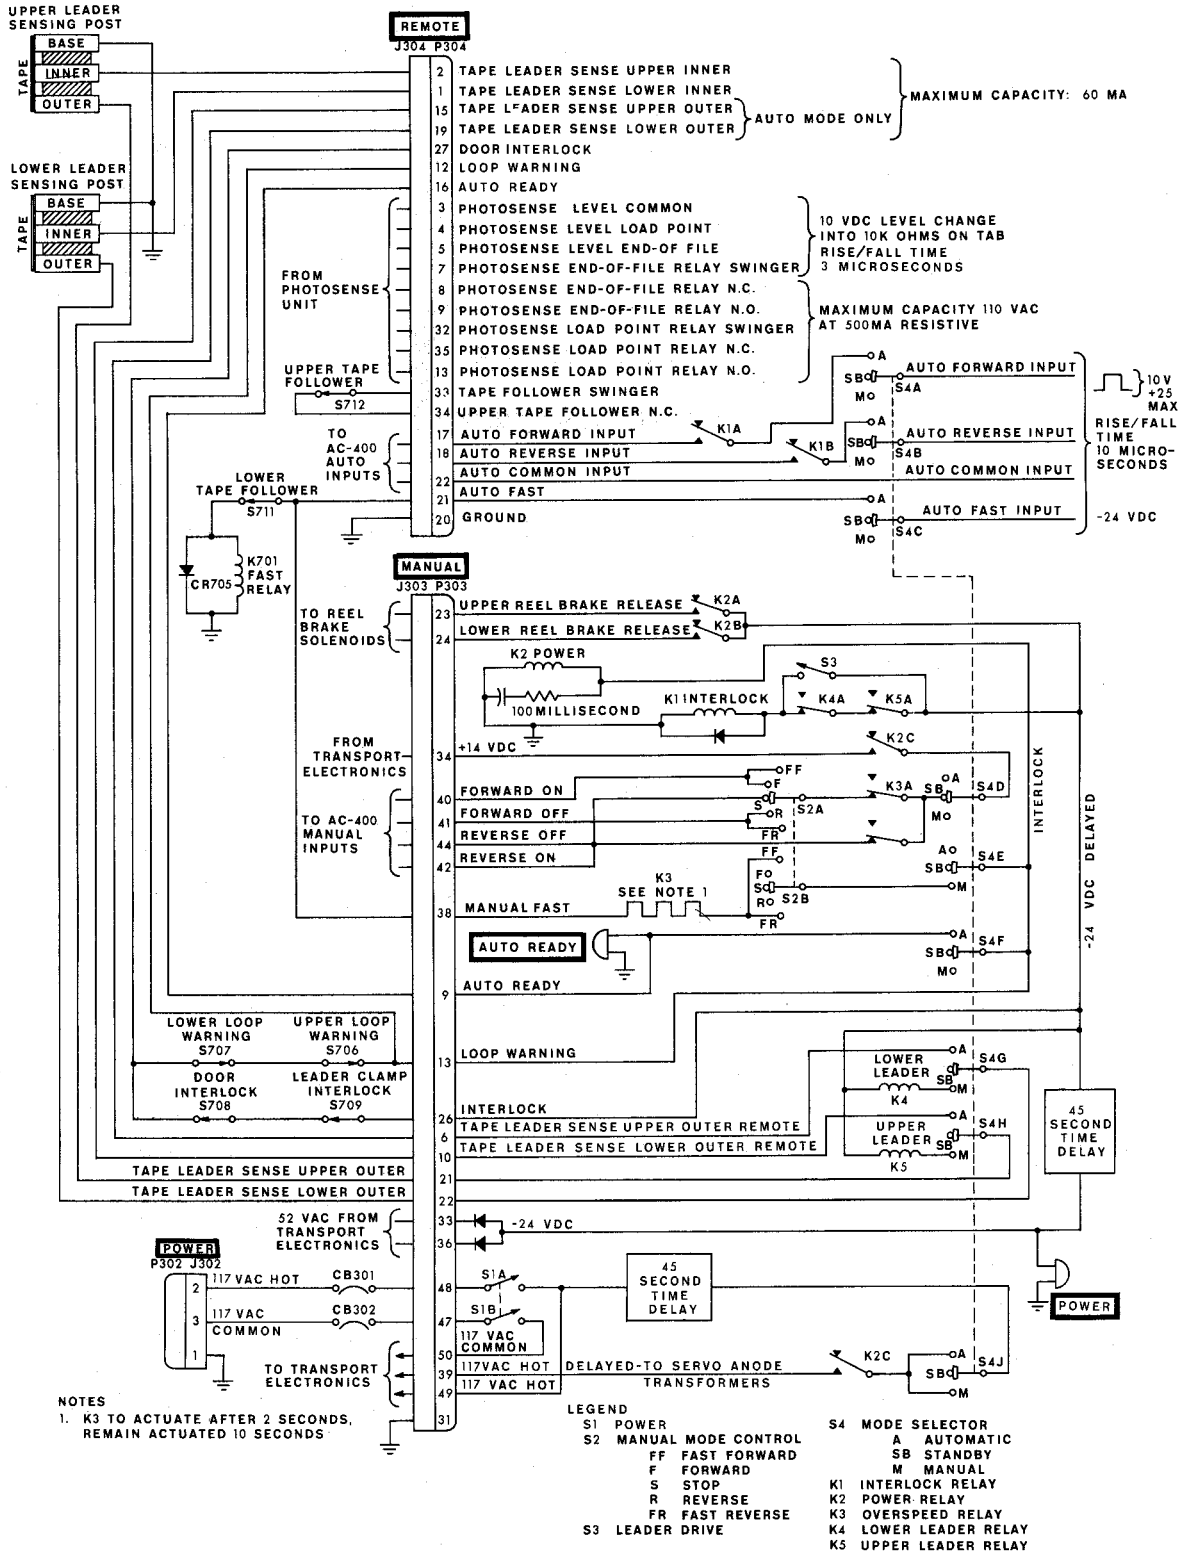

Figure 2-7
Step 3: If a manual control panel is supplied, connect the cable captive to the manual control panel to J303 on the transport electronics assembly. If no manual control panel is supplied, suitable similar circuitry must be connected through J303; see Figure 2-7.
Step 4: If the tape transport is to be programmed from the tape control unit of a computer or other external source, connect this source through J304 and J305 on the transport electronics assembly. Mating connectors are supplied with the tape transport. Typical control circuitry is indicated in Figure 2-7.